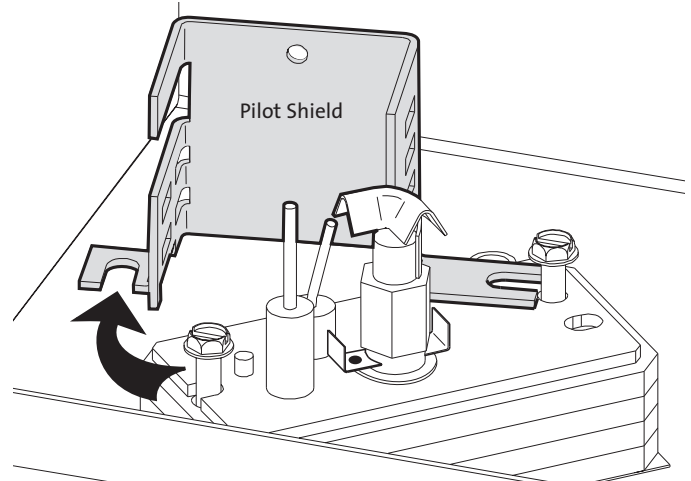

Figure 28. Use a 1/4" socket driver to loosen two screws and pivot the Pilot Shield out of the way.
- a) **Loosen two sheet metal screws to pivot the Pilot Shield** out of the way as shown in fig. 28.